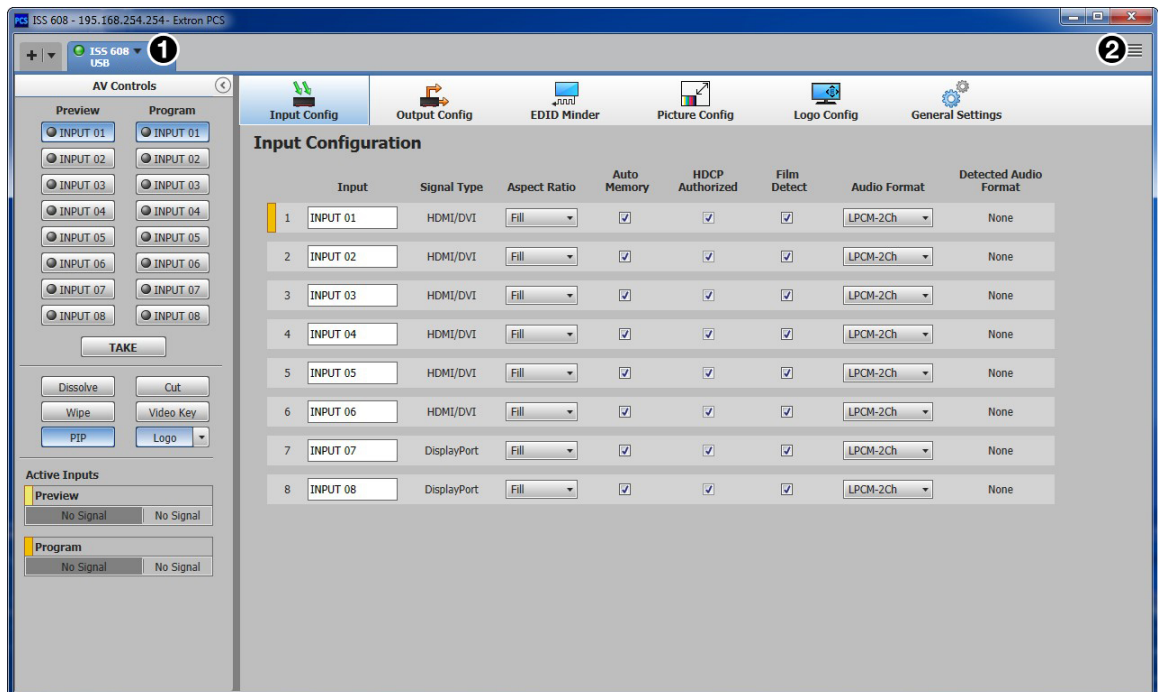

Figure 33. ISS 608 Main Window
Each PCS screen has a **Device** drop-down list (see figure 33, ❶) for device configuration options. The **Software** menu (❷) contains software configuration and information options.